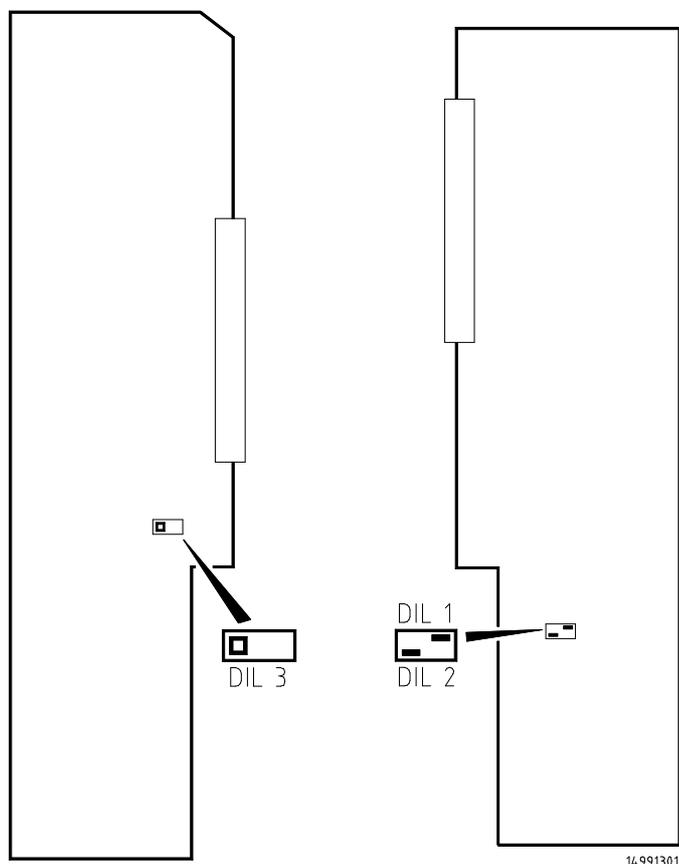

FIG 15
monitor 2, this may be disabled by DIL switch (3) on the left-hand PCB. (Refer to FIG 15) Use of split monitoring makes no change to the meters when reading monitor 1, but note that a signal entering monitor 1 path in the M-S domain will mix to monitor 1 left as a stereo-left signal - as it will when MONO (14) is selected.